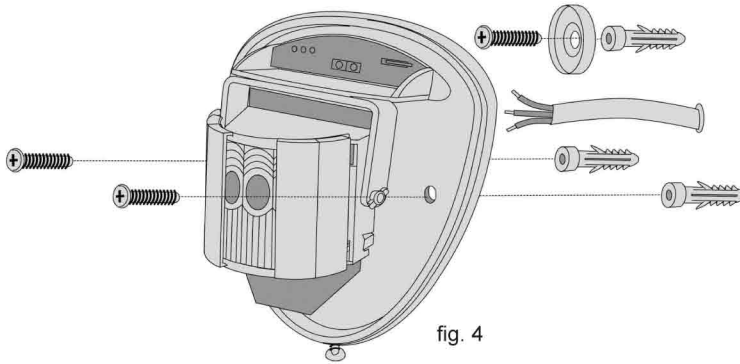
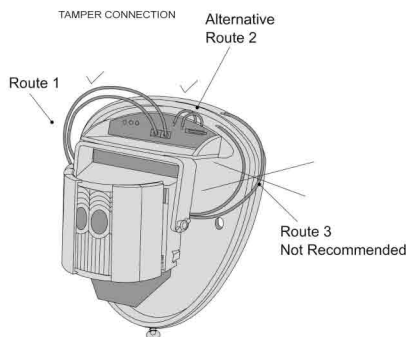

fig. 4
fig. 7
- 3) Feed standard 12 core alarm cable into the cable entry; bare the wires and connect to the removable terminal block as shown in fig. 7. Screw the unit to the wall ensuring that the tamper pin is correctly located and that the tamper microswitch is closed. **See fig. 4 and 5.** To aid installation, two spare tamper feet are provided. One is 1mm longer and the other is 2mm longer than the tamper foot originally fitted. The tamper foot is a push fit and can be removed by carefully pulling it from the pin. **See fig. 2.**